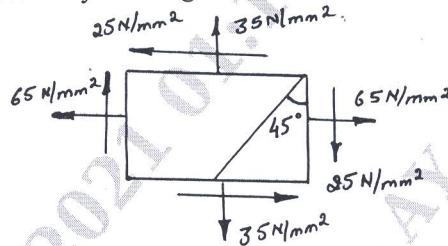

Fig.Q3(b)
- b. A machine component is subjected to the stress as shown in Fig.Q3(b). Find the normal and shear stresses on the section AB inclined at an angle  $45^\circ$ . Also find the resultant stress on the section. Verify the above results by drawing Mohr's circle.